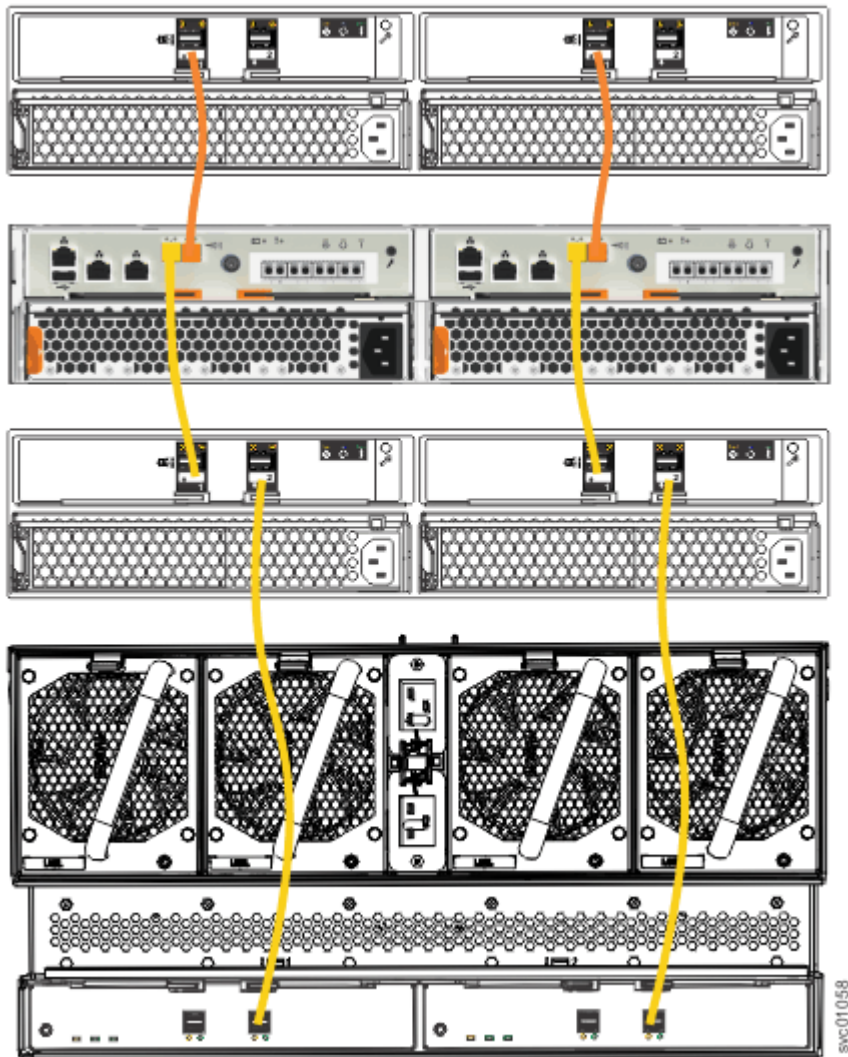

Figure 113. Connecting the SAS cables
1. Install the cables, as shown in Figure 113 on page 107.
Note: Figure 113 on page 107 shows the cable connections between the SAS enclosures and the Storwize V5030 control enclosure. It does not imply or represent the precise racking order for the enclosures in a rack. However, due to its size and weight, always place the 2077-92F enclosure near the bottom of the rack.
As Figure 113 on page 107 shows, you can combine 2U and 5U expansion enclosures in a SAS chain. The limiting factor is the combined *chain weight* of the various components. The maximum SAS chain weight that can be attached to a node SAS port is 10: